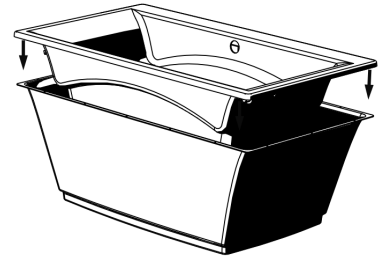

Figure 2B
10. Remove 4x4's and **gently** lower bathtub into apron, making sure **all** legs under the tub rest firmly on the floor (figure 2B).